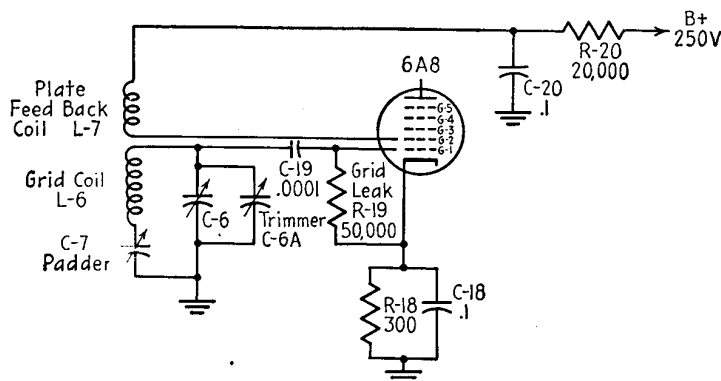

Fig. 14-2.—Oscillator circuit in the 6A8 pentagrid converter.
2. It generates an unmodulated RF signal of its own at a frequency different from the received signal. The cathode and grids *G-1* and *G-2* act as a triode oscillator. This can be more easily seen by re-drawing the oscillator stage of the converter, as shown in Fig. 14-2. Grid *G-1* acts as the oscillator grid while grid *G-2* acts as the oscillator plate or anode. Coil *L-6* and its associated condenser *C-6* are located in the oscillator grid circuit and make up the tuning section for the oscillator. Condenser *C-6* is the oscillator section of the gang tuning condenser. Feedback from the plate circuit is obtained by coupling between *L-6* and *L-7*, the latter coil being in the oscillator anode circuit. The feedback is in proper phase and of sufficient